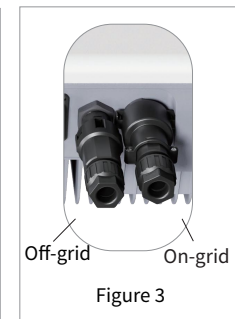

Figure 3
- Grid-connected and off-grid connection: Make sure that the polarity is correct when connecting the grid-connected side to the grid and the off-grid side to the load, and the R wire, S wire, T wire and N wire are connected in sequence, see Figure 3.